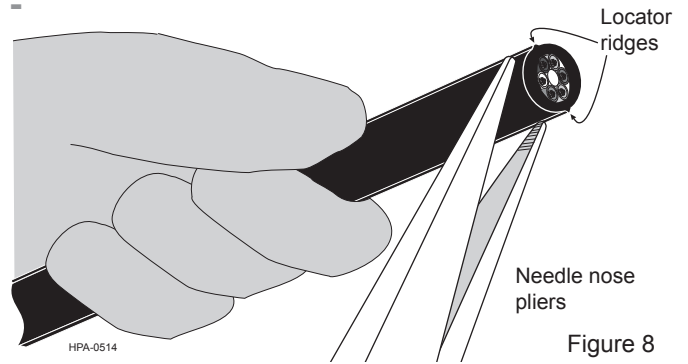

Figure 8
Step 1: Use needle nose pliers to firmly pinch the outer sheath on one side of the FastAccess™ Technology locator ridges (Figure 8). Try to direct the pressure on the sheath rather than the cable core.